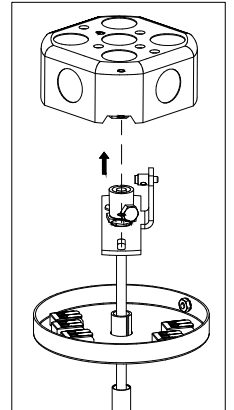

Figure 2: Base Mounting [1/2]
5. Attach canopy mounting kit onto 4" octagonal wiring box using [2] Phillips screws. [Figure 2]